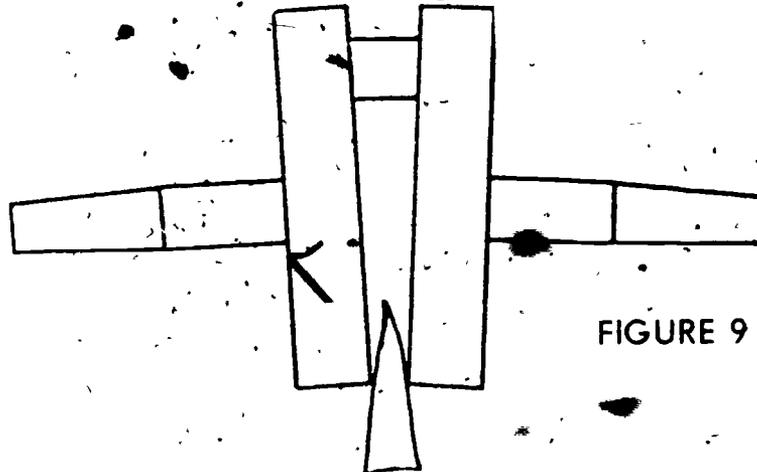

FIGURE 9
- 2) Drive wedge between wheels away from pin (Figure 9)